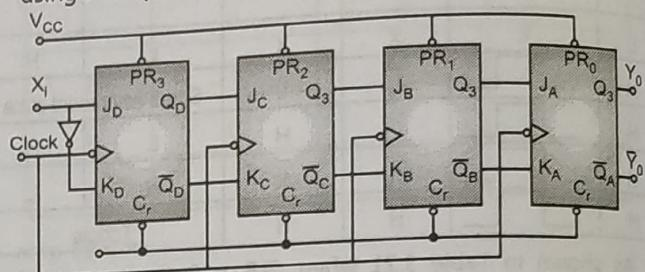

Fig. 3.38
- The logic diagram of 4-bit serial in serial out shift register using J-K flip-flop is shown Fig. 3.38.
- In Fig. 3.38, X_1 is input and Y_0 is output of serial in serial out shift register.